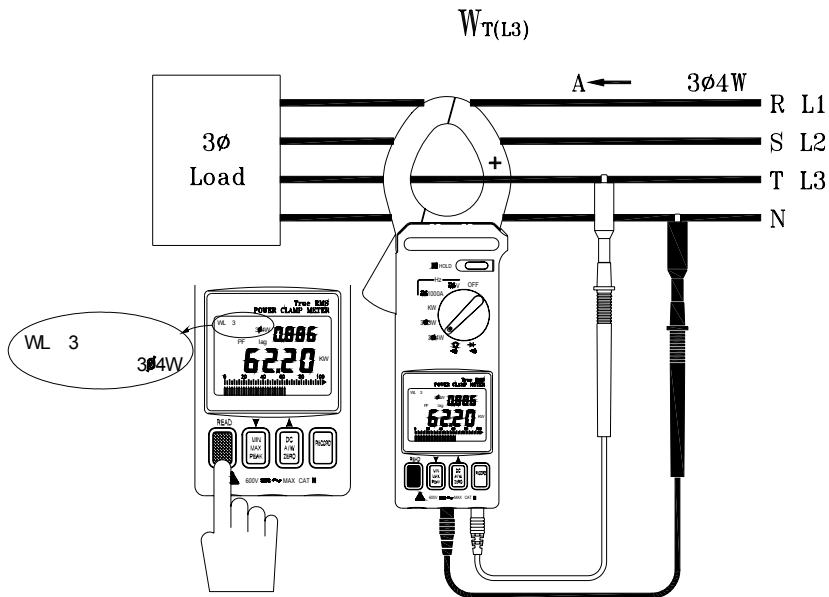

Figure 9
6. The meter will process these three sets of data (refer to figure 9) and display the  $3\phi 4W$  power measurement (**WL123** will be displayed). The  $3\phi 4W$  measurement will then be stored in memory. The following equations are provided for your information.